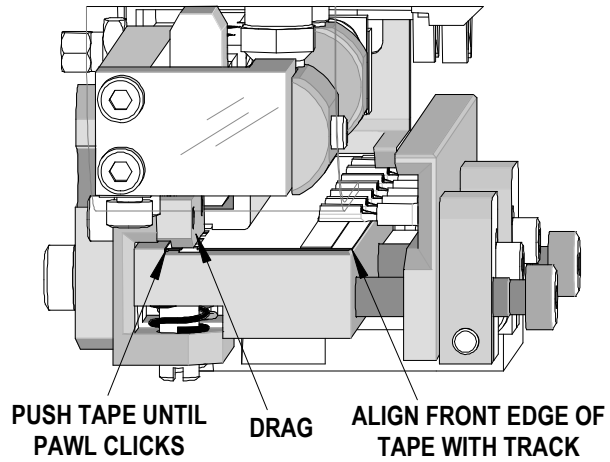

Figure 2-36
5. For narrow (1 1/8" wide) tape, align the front edge of the tape with the front edge of the track and gently push the tape into the track until it reaches the feed pawls (the pawls will "click" into the feed holes of the tape). The process is the same for wider (1 7/16") tape but the front edge will protrude about 8mm (0.3") from the front of the track. See Figure 2-36.